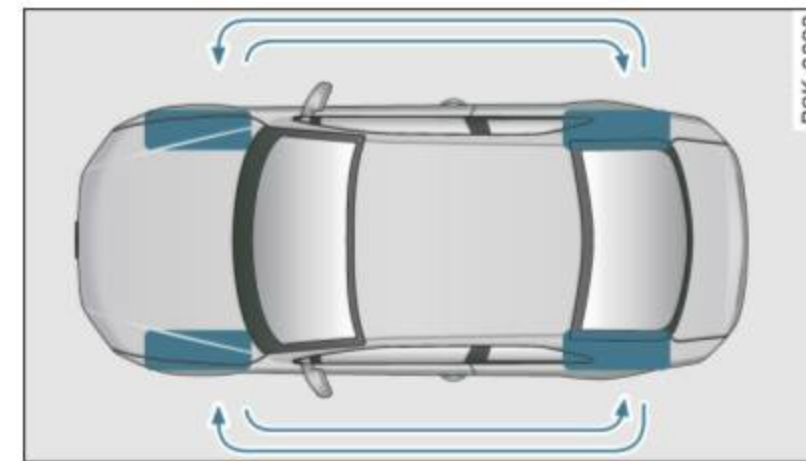

Fig. 215 Rotating tires for more even wear
- Please rotate tires as shown ⇒ *fig. 215*.